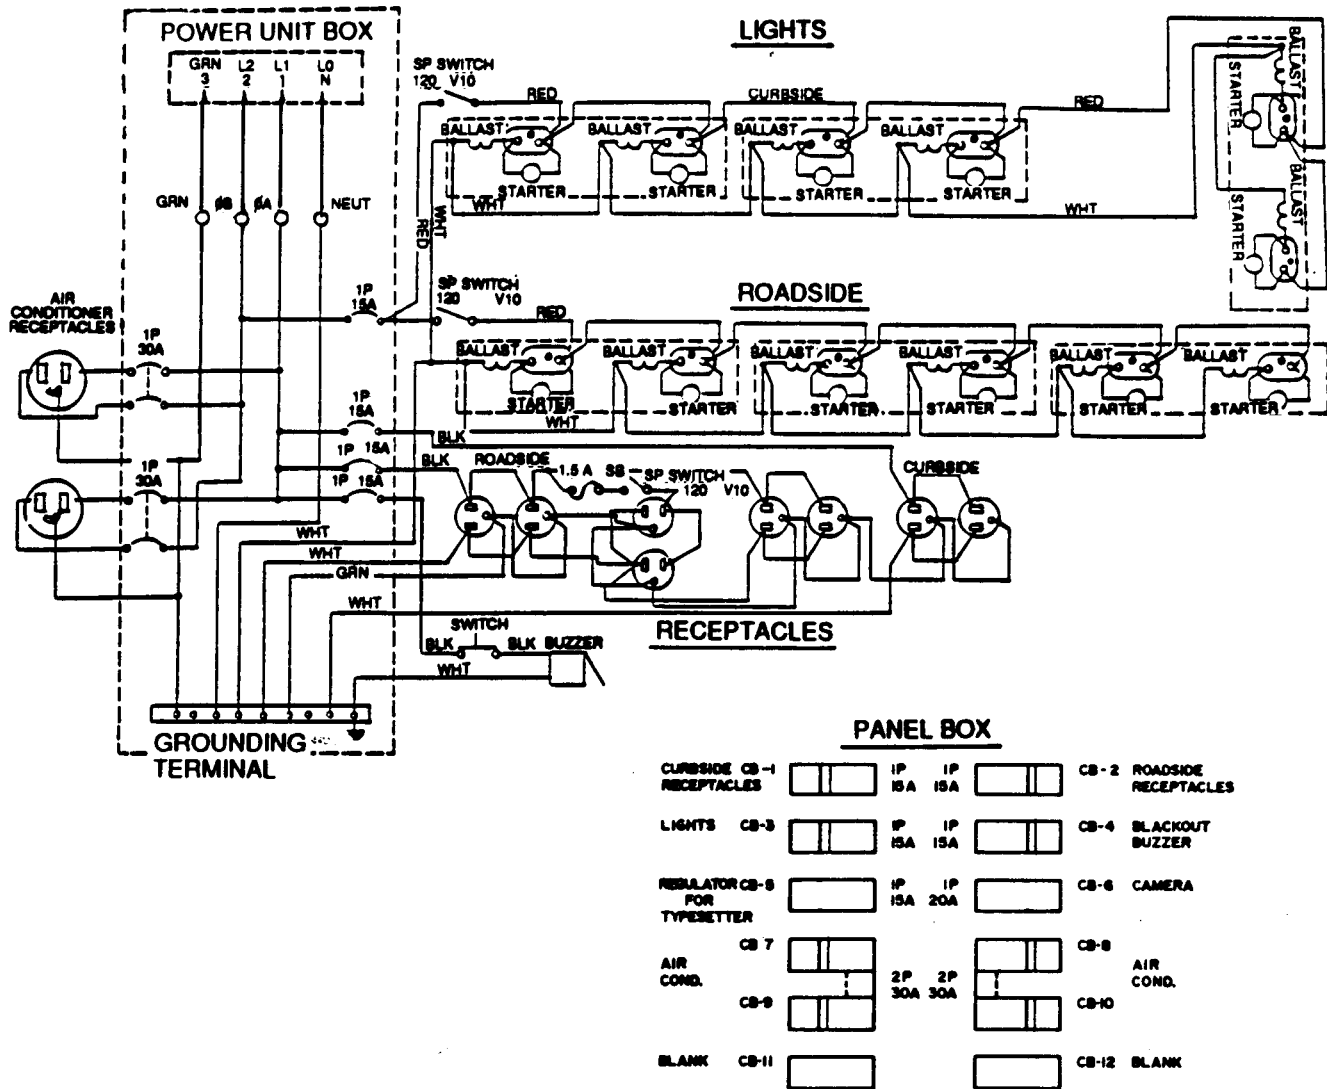

Figure 5-11. Electrical Wiring Diagram
- (1) Inspect electrical wires inside rigid conduit for burnt, cracked or missing insulation.
- (2) Inspect electrical wires for frayed, broken, corroded or exposed conductors.
- (3) Inspect electrical wires for loose or improper connection.
- (4) Inspect electrical wires for security of mounting (safely held inside conduit with wire clips).
b. Repair. Electrical wiring repair consists of replacing components. (See Figure 5-11).
- (1) Remove conduit cover clips, cover and wire clips as required. Refer to paragraph 5-13.
- (2) Tag electrical wires, disconnect from terminals and remove from conduit, as necessary.
- (3) Install electrical wires (cut to length) in conduit, connect to terminals and remove tags. (See Figure 5-11. Electrical Wiring Diagram for proper connections).